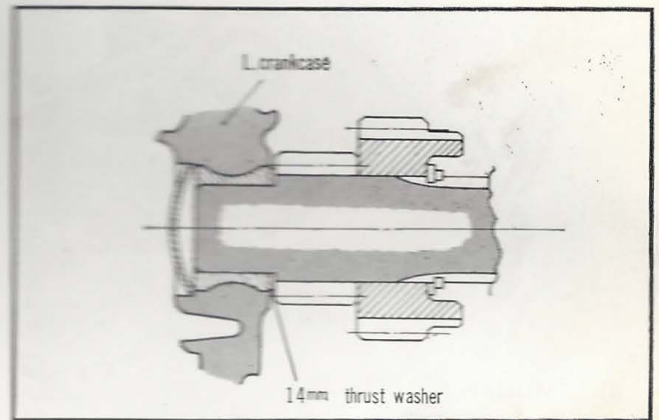

Figure 3-86. Thrust washer C50, C50M, C65, C65M
- a. Check to make sure the 12.5mm thrust washer is installed on the countershaft and the 14mm thrust washer is installed on the main shaft on C50, C50M, C65 and C65M. (Fig. 3-86)